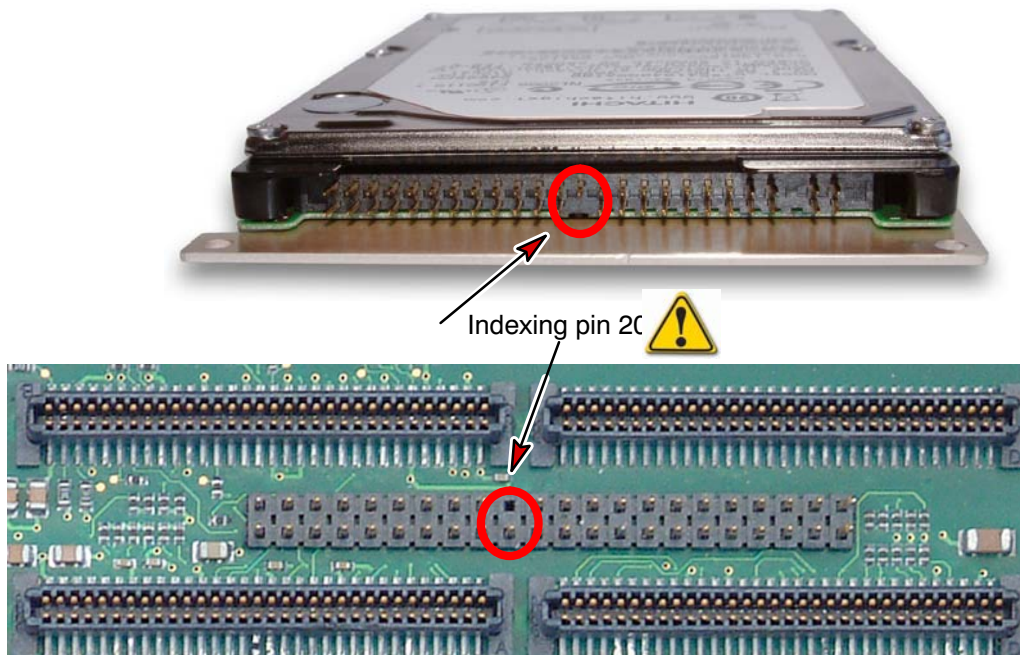
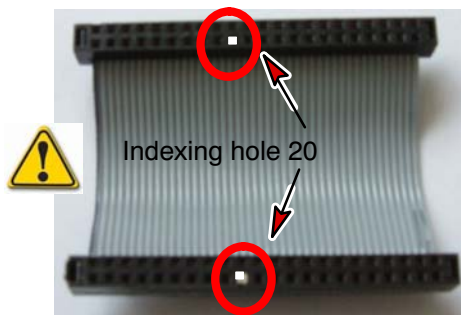
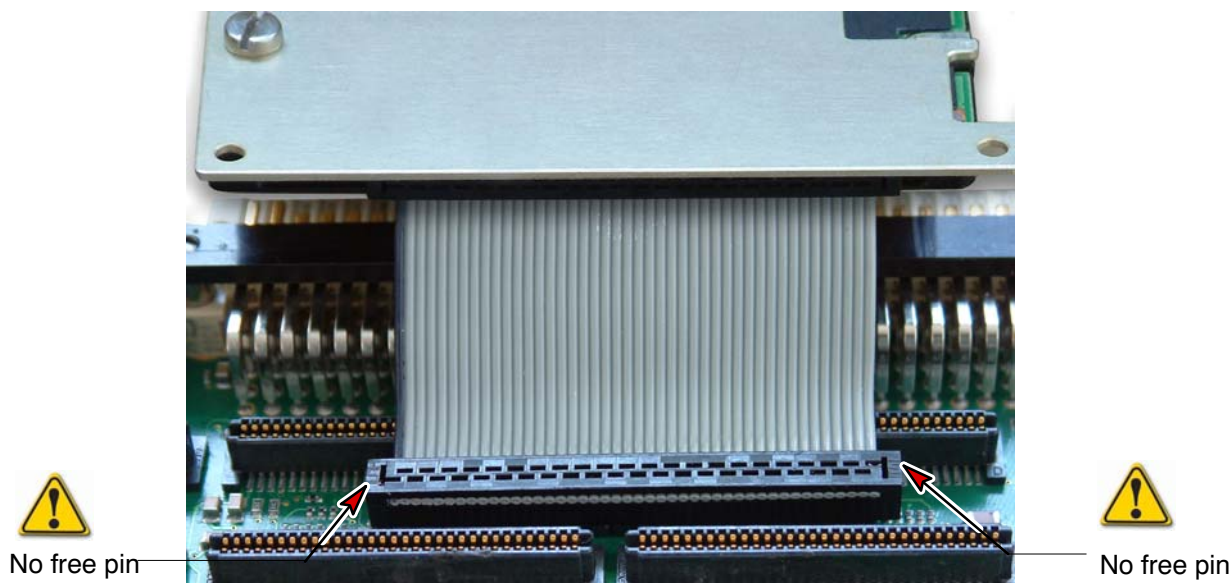

Figure 14: 44-pin EIDE connector
Figure 15: 44-pin EIDE cable
Figure 18: Plugging the cable: Board Side
The indexing pins and indexing holes (described in Figure 14 and Figure 15 page 24) make easier the connection of the cable.
6. Plug the cable on the P6 connector of the board as shown in Figure 18 page 26. The indexing pins and indexing holes (described in Figure 14 and Figure 15 page 24) make easier the connection of the cable.